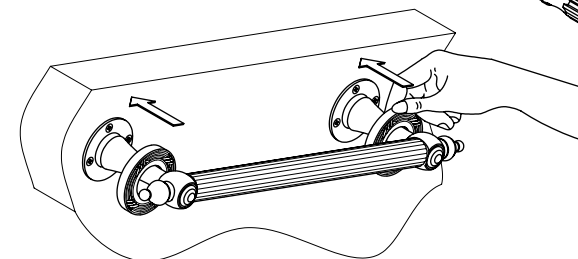

Fig. 5
- Step 5. Shift cover along the base and place the cover over the mounting plate by pressing gently until the cover is tightly fixed. (Fig.5)